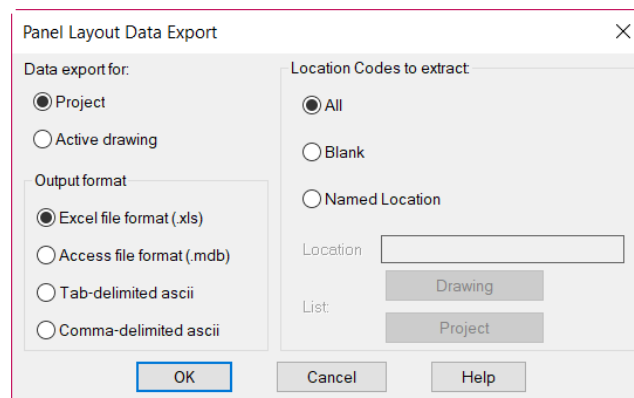

Figure P2-24 The Panel Layout Data Export dialog box
2. In this dialog box, select the **Panel Components*** radio button and choose the **OK** button; the **Panel Layout Data Export** dialog box is displayed, as shown in Figure P2-24.